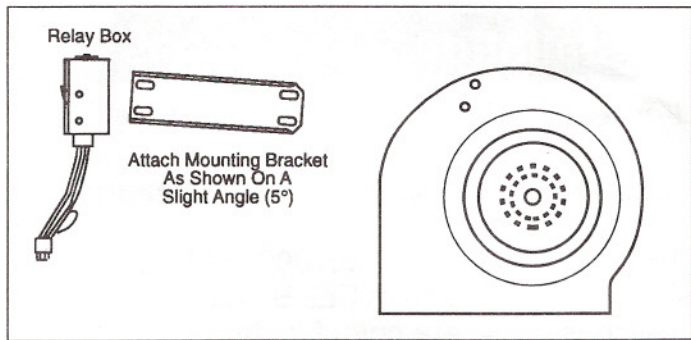

Figure 3. Attaching A/C Relay Box to 2-Speed Blower
- Bring in the low voltage field wires from the thermostat and air conditioning/heat pump unit and attach them to the low voltage field wiring terminal board located at the top of the relay control box. (See system wiring as shown in Figure 3 of the Relay Box Installation Instructions.)